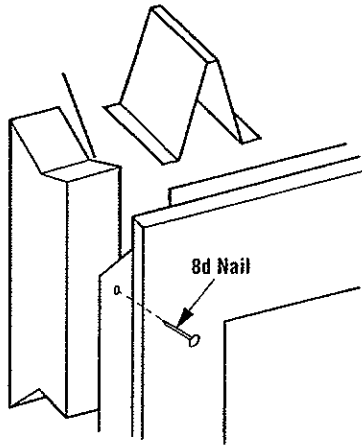

Figure 9
Step 4. Fireplace should be secured to side framing members using the full length nailing tabs at the top and bottom of the fireplace front face. Use 8d nails (*see Figure 9*).